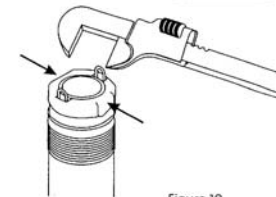

Figure 10
- The pump should only be gripped by the two flats at the top of the pump, as shown in Figure 10.